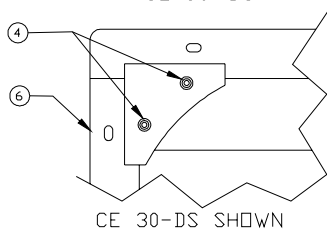

FIGURE 3
2. Find rubber insert nuts (Item 4) provided with hardware kit. See figure 3 on reverse side.